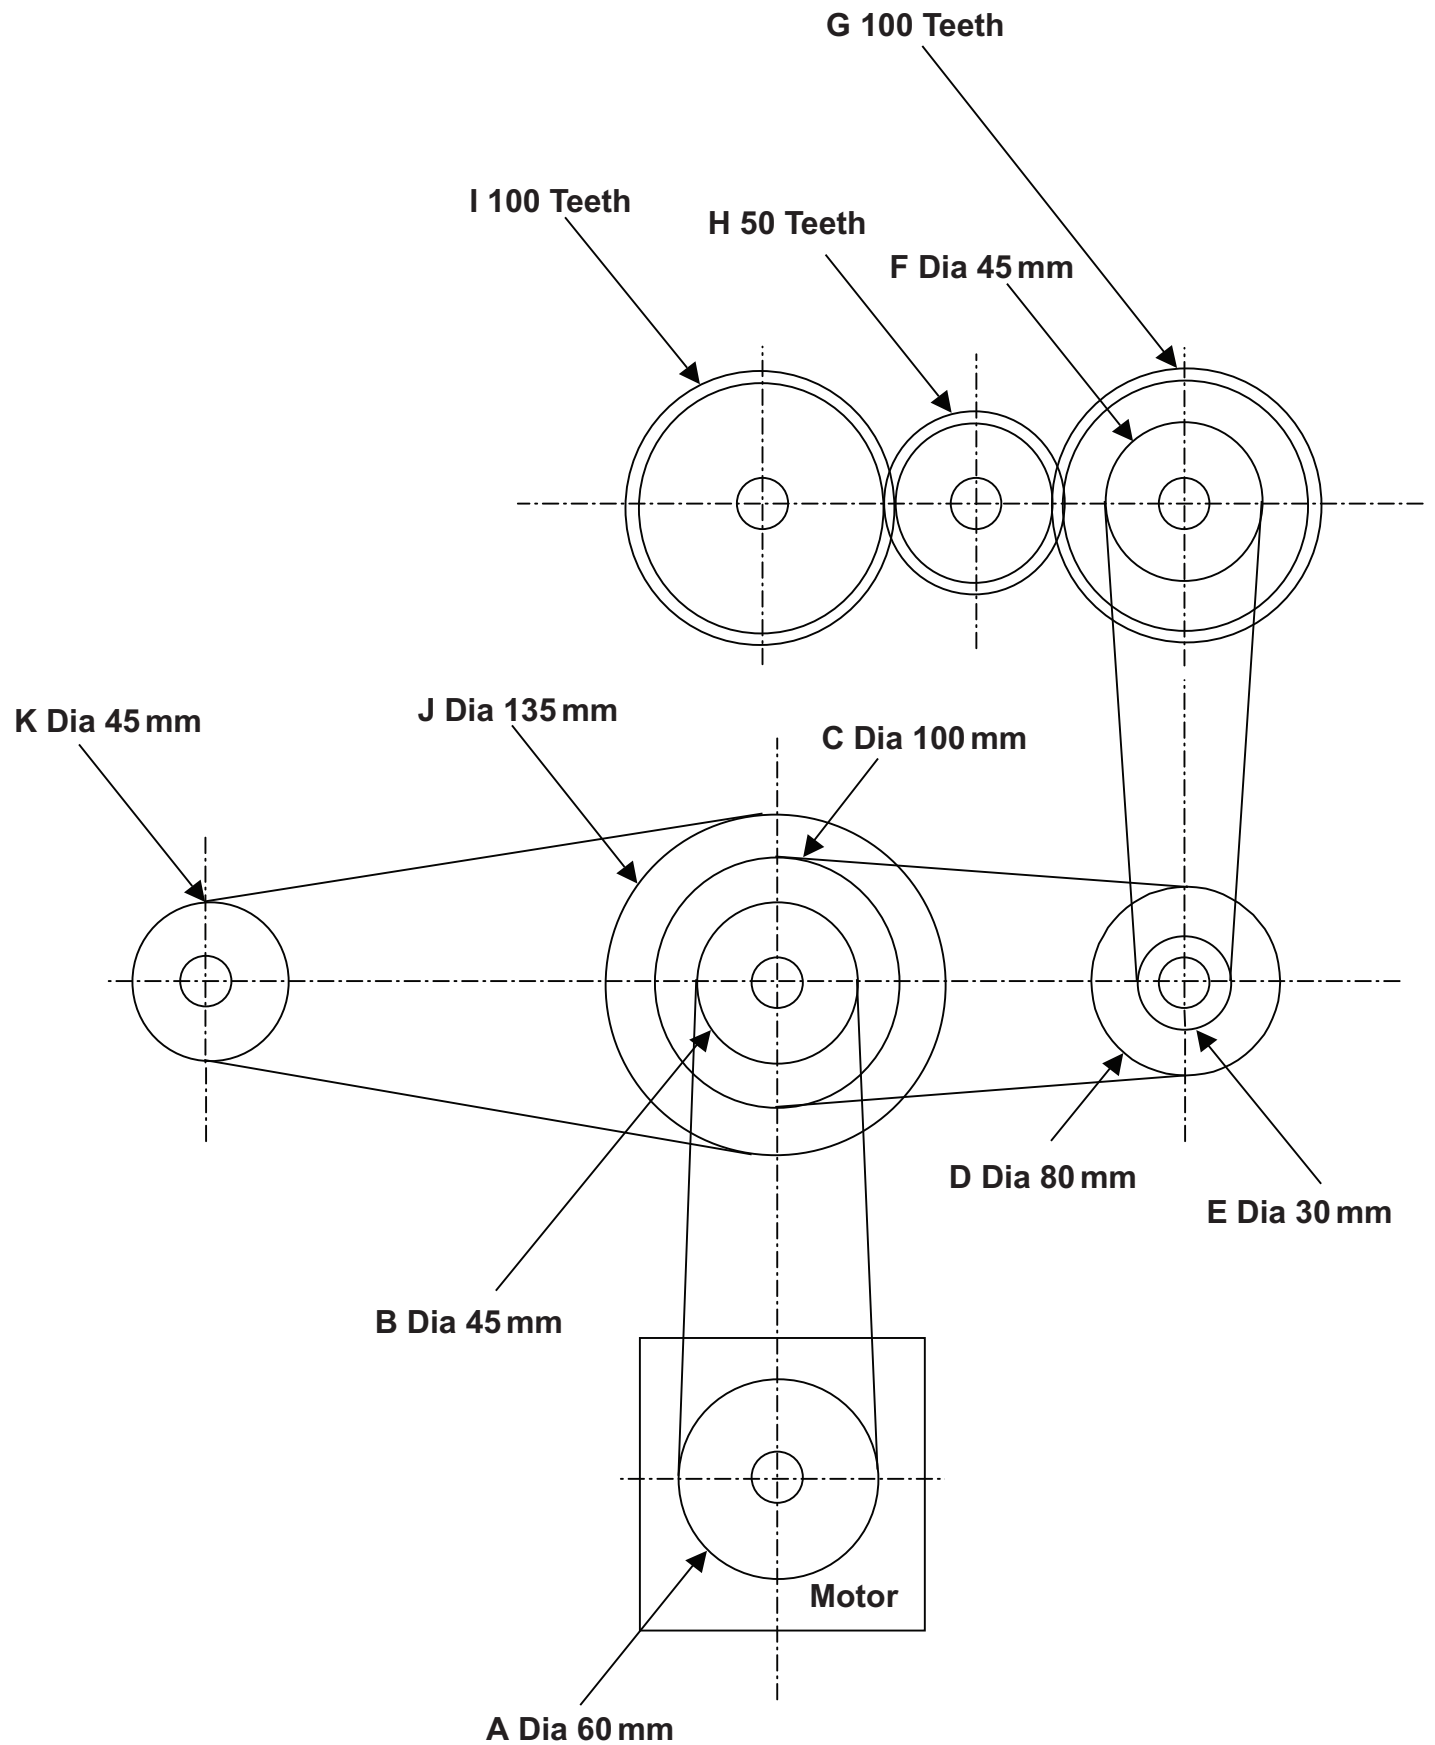

Fig. 11
- 11 Fig. 11** shows a mechanical system incorporating a motor, pulley and gears.